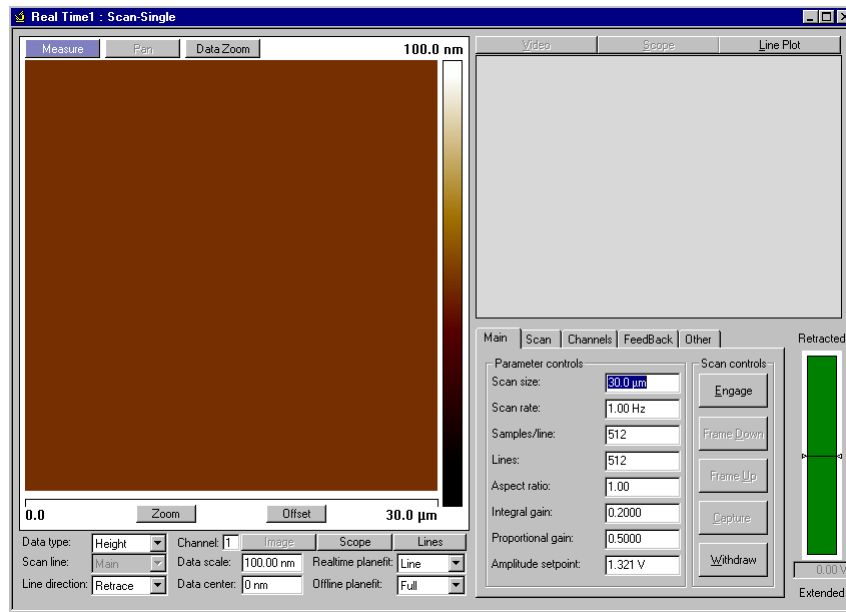

Figure 14: the Scan single display.
- “Scan single” is designed for people who want to record one type of image, it contains a view of the image being recorded (on the left), a plotter which can show the video image, a scope of the scanning line being recorded or a plot of all the lines which have been recorded for this image, the last part is a scan control panel in the bottom right corner (Figure 14).